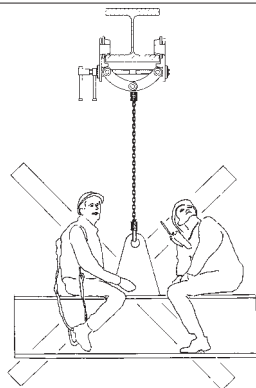

Fig. 3
- Do not use the beam clamp with integral trolley for the transportation of people (fig. 3)